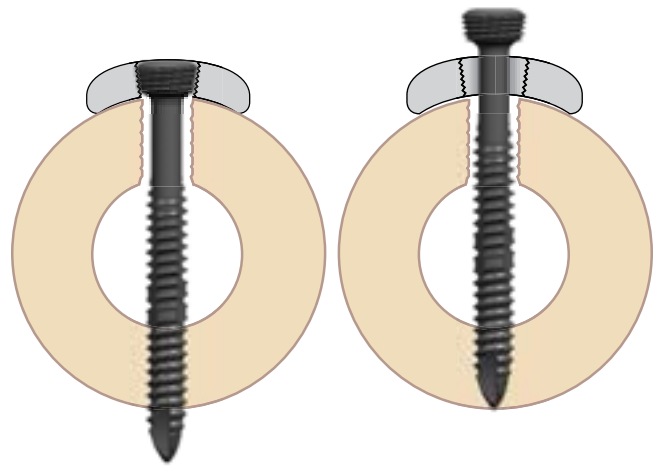

Fig. 10
*MotionLoc* screws have been designed to aid in the removal process. A portion of the screw has **reverse cutting threads** to engage in the near cortex bone as the cortical threads disengage from the far cortex of bone (Fig. 10).